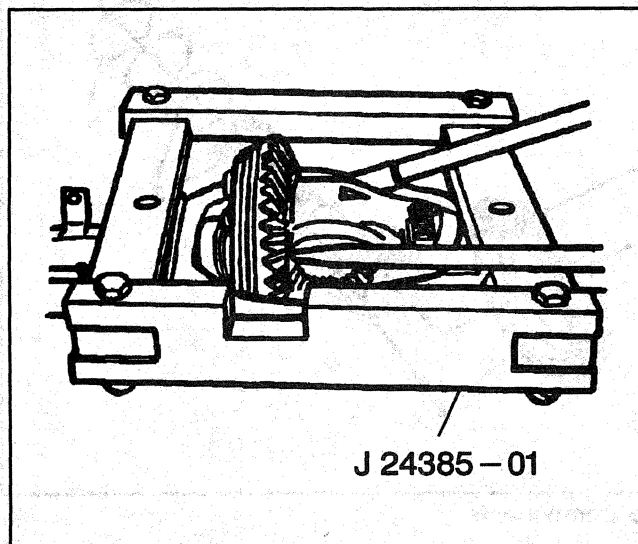

Figure 4—Removing the Differential
6. Case from the housing using two pry bars (Figure 4).